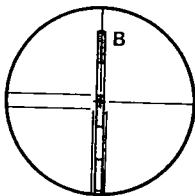

Fig. 23
- e. Loosen the horizontal clamp ⑩ . Introduce the target B into the field of view and tighten the horizontal clamp. Sight the target B with the horizontal fine motion ⑪ , Fig. 23.